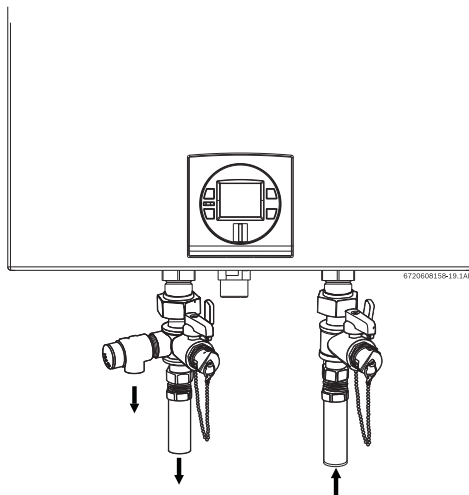

Fig. 27 Plumbing Connections (with shutoff valves) and Pressure Relief Valve
- ▶ Full port shutoff valves should be installed on both the cold water supply and hot water outlet lines to facilitate servicing the heater (see Fig. 27).
The location of the PRV must be readily accessible for servicing or replacement, and be mounted as close to the water heater as possible. See Fig. 27. To install the PRV, a suitable fitting connected to an extension on a "T" fitting can be sweated to the hot water line.